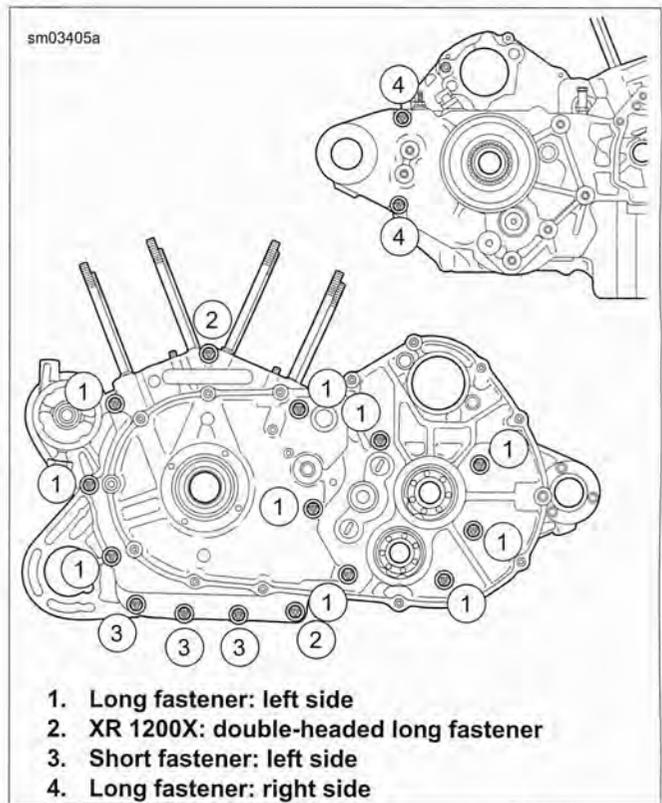

Figure 5-51. Crankcase Fasteners
13. See Figure 5-51. Remove 15 crankcase fasteners (11 long and four short) from left side of crankcase assembly. Remove two fasteners from right side of crankcase assembly.